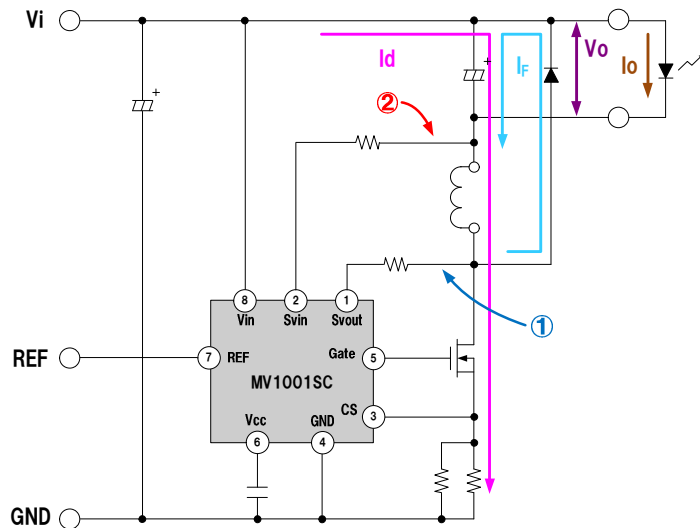
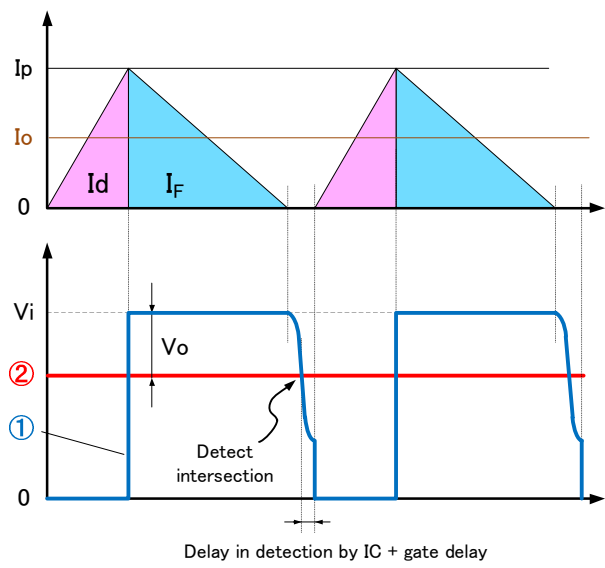

Figure 1 CRM step-down chopper circuit
Figure 2 MOSFET and diode current waveforms of the CRM step-down chopper and voltage waveforms on both ends of the choke
The MV1001SC is a critical conduction mode (CRM) step-down chopper control IC. Figure 1 shows the circuit configuration. Figure 2 shows the waveforms of currents flowing to the MOSFET and the diode, represented by I_D and I_F , respectively. In a general CRM step-down chopper circuit, the MOSFET is turned on after the I_F becomes zero, leaving little recovery current for the diode and lower losses and noises than a PWM circuit. Meanwhile, disadvantageously, the oscillation frequency changes dramatically as the output current (LED current) changes, resulting in poorer dimming characteristics and efficiency.
The MV1001SC detects I_D , converted to a voltage, with the current detection pin (CS pin). When it reaches the CS reference voltage, the MV1001SC turns the MOSFET off (peak current detection). The IC performs CRM control in this way: When the diode current I_F becomes zero, the S_{vout} voltage falls below the S_{vin} voltage, so the IC detects this state (zero current detection) and turns the MOSFET on. The voltages on both ends of the choke (① and ② in Figure 2) are divided with resistors and input to the S_{vin} pin and the S_{vout} pin to achieve CRM operations without auxiliary winding. Additionally, the off-time modulation prevents the frequency increasing during dimming and achieves constant high efficiency and dimming characteristics during deep dimming. (See Section 5 [Dimming characteristics] on page 20.)
Figure 3 shows an example of a starting operation in the Vcc->REF sequence, using the circuit configuration shown in Figure 1.